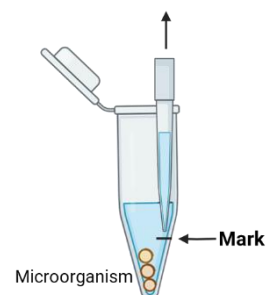

Figure 4.
- (13) Centrifuge at 1,200 x g for 10 minutes at room temperature (20-27°C) to collect microorganisms.
- (14) Slowly transfer the centrifuge rotor to a safety cabinet. After that, transfer the tubes slowly to the Magnet stand with the mark facing you. Using the Magnet stand is recommended to make operation (15) easier.
- (15) On the Magnet stand, open the cap of the tubes and remove 0.8 mL of supernatant using an electronic pipette.
*Be careful not to put the tip below the mark to avoid aspirating microorganisms (See Fig.4). Use the slowest setting of the electronic pipette.
- (16) Add 1.5 mL of TG or 0.8 mL of SCDM to each sample tube. Mix by inversion 3 times after addition. *When using cell suspension samples, vortex until the cell clumps disperse.
- (17) Incubate in a heat block at 37°C for at least 180 minutes. Turn off the light in the safety cabinet for light shielding.
- (18) Prepare the Enzyme Mix (+) for use in Part 2. Add 8 μ L of Nucleic Acid Inactivator (ik1) to the Enzyme Mix tube (ik1, Cap color: red). Incubate at 37°C for 3 hours, then place on ice and keep on ice until use. After use, store at -20°C or below. Before use, mix 10 times by inversion and spin down in a benchtop centrifuge. Once the Enzyme Mix (+) is prepared, there is no need to add more Nucleic Acid Inactivator until it is used up. (Nucleic Acid Inactivator is added to the Enzyme Mix only once.)
- (19) After incubation, set the tubes in the centrifuge rotor with the mark facing the inside of the rotor.
- (20) Centrifuge at 16,000 x g for 2 minutes at room temperature (20-27°C).
- (21) Slowly transfer the centrifuge rotor into the safety cabinet. Transfer the tubes slowly to the Magnet stand with the mark facing you. Using the Magnet stand is recommended to make operation (22) easier.
- (22) Remove 0.8 mL of supernatant from the SCDM-added Sample Tube and 1.5 mL from the TG-added Sample Tube using an electric micropipette.
- *Be careful not to put the tip below the mark to avoid aspirating microorganisms (See Fig.4). Use the slowest setting of the pipette.
- (23) Aspirate the remaining solution in the SCDM-added Sample Tube 10 times, and then transfer the solution to the TG-added tube to combine them. When pipetting, note that microorganisms accumulate on the wall opposite of the mark. To collect the microorganisms, be sure to dispense the solution onto the wall opposite of the marker. (See Fig.4).
(24) Add 1 mL of Enzyme Enhancer (ik1) to the sample (23) and mix by inversion three times.
(25) Put the tube into the centrifuge rotor with the mark facing the inside.
(26) Centrifuge at 16,000 x g for 2 minutes at room temperature (20-27°C).
(27) Remove 1.2 mL of supernatant with an electronic pipette. After removing 1.2 mL of supernatant, if the liquid level is above the 0.2 mL mark, remove the supernatant further down to the mark. Ensure that the final sample volume is between 200 µL and 250 µL.
*Be careful not to put the tip below the mark to avoid aspirating microorganisms (See Fig.4). Use the slowest setting for the electronic pipette.